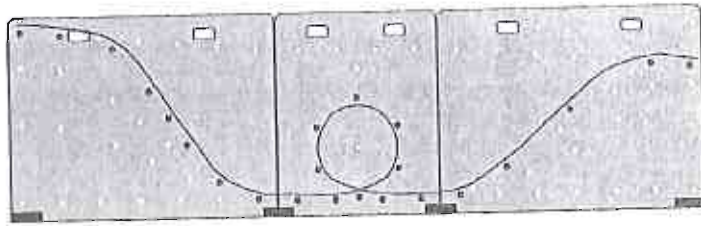

Figure 1: Loop Setup
1. Configure the track as shown in Figures 1 and 2. Attach a photogate at the top of the loop. Also put the catcher on the end of the track to keep the car from going off the end of the track.